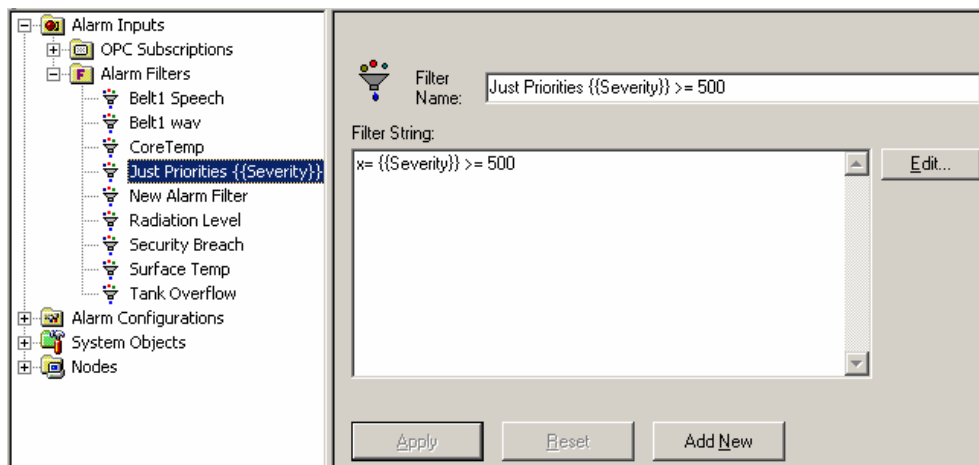

Figure A.40. Completed Alarm Filter
8. Click **OK** to complete this filter. (**Note:** The expression editor will add an "x=" in front of the expression to complete it for you). Your final alarm filter should appear as shown in **Figure A.40**.
9. Finally, click the **Apply** button to save this filter. It then gets placed alphabetically in the tree control, as shown in Figure A.40. It may now be used in the action set to limit which alarms will trigger the action(s).